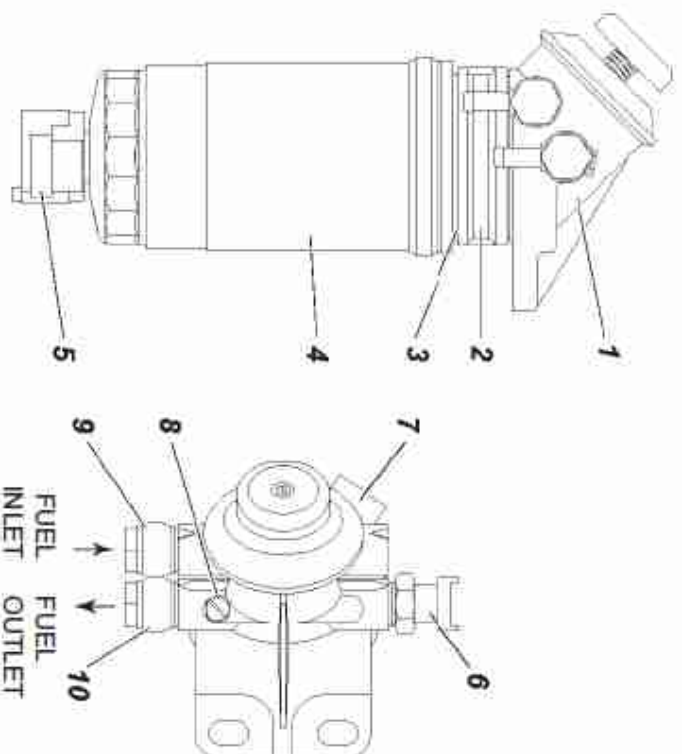

Fig. 9.18. Final fuel filter with priming pump and water-in-fuel presence indicator in the settling drain plug
- for initial filling of the fuel system, use the priming pump on the final fuel filter. Air shall be drained through the screw of the final fuel filter 7 (Fig. 9.18);
**For the final fuel filter use BOSCH, 0 450 126 273, shown in Fig. 9.18.**